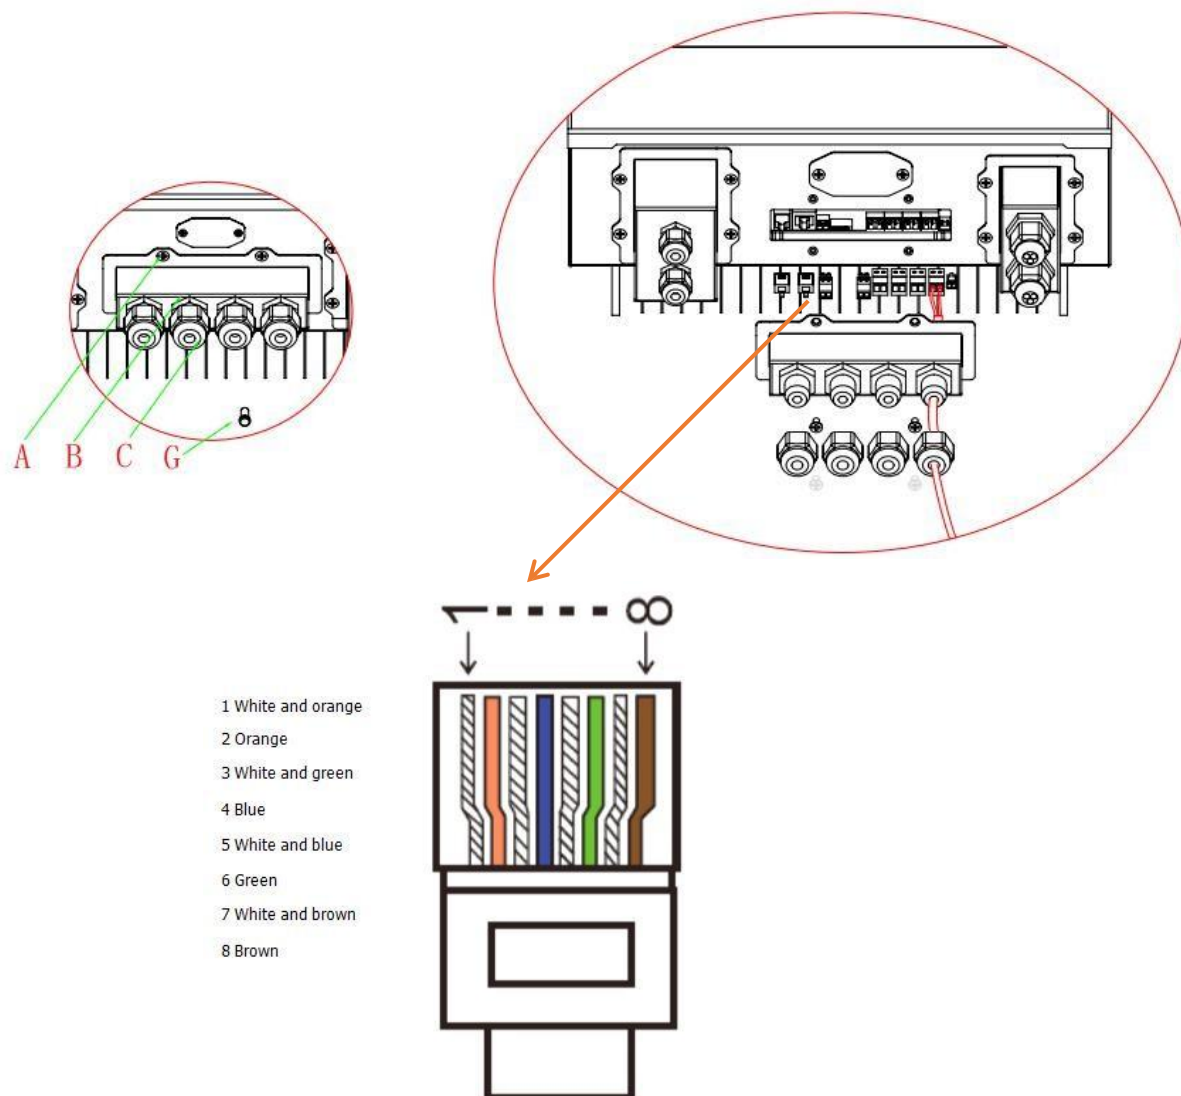

Fig. 7 Inverter logic interface connection
Step 1: Loosen 4 screws (A) using a screwdriver (fig. 7);
Step 2: Remove the waterproof cover (B),Loosen the cable gland (C), and then remove the stopper (G);